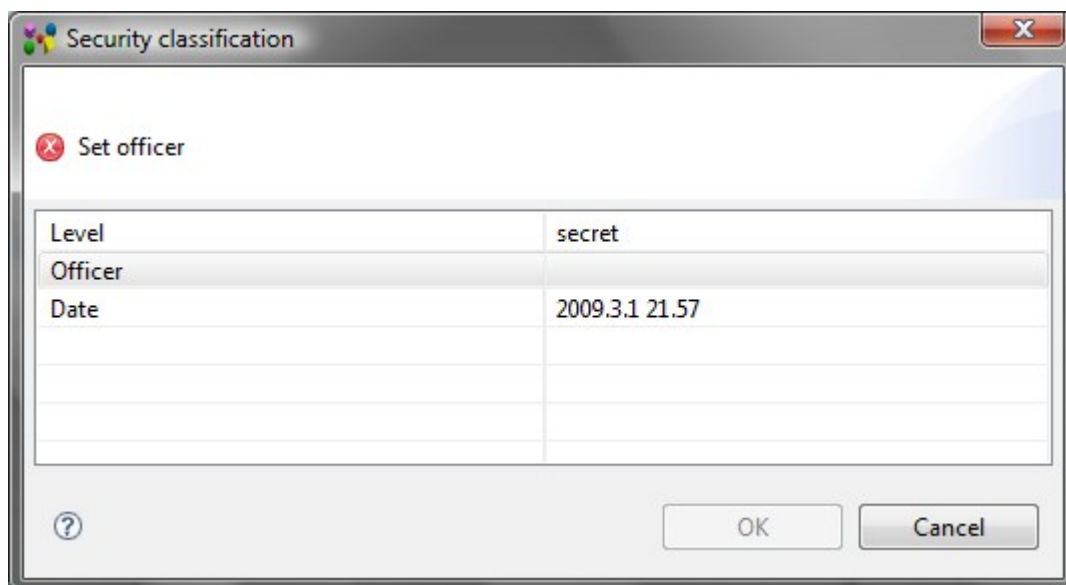

Figure 3. Security classification dialog window
- Double click on a security column cell. The **Security classification** dialog window appears on the screen (see Figure 3):